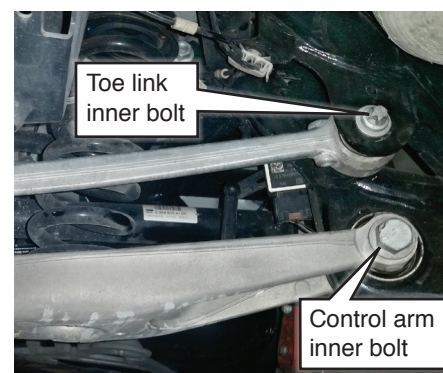

fig. 12
- Remove the inner toe link bolt and the inner control arm bolt (Fig. 12).